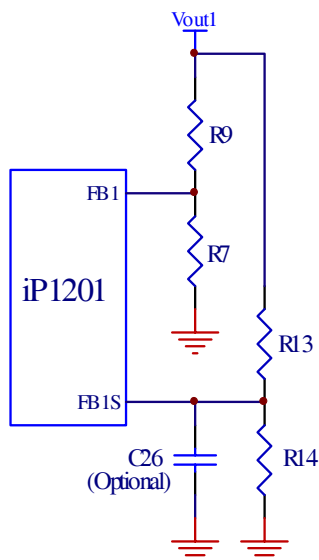

Fig. 19: Typical scheme for output voltage setting
Both outputs of the iP1201 will shut down if either one of the outputs experiences a voltage in the range of 115% of V_{OUT} . The overvoltage sense pins FB1s and FB2s are connected to the output through voltage dividers, R_{13} and R_{14} (Fig. 19), and the trip setpoints are programmed according to equation (1). Separate overvoltage sense pins $FB1_s$ and $FB2_s$ are provided to protect the power supply output if for some reason the main feedback loop is lost (for instance, loss of feedback resistors). If this redundancy is not required and if Type II control loop compensation scheme is utilized, FB1s and FB2s pins can be connected to FB1 and FB2 pins respectively. An optional 100pF capacitor (C26) is used for delay and filtering purposes.
When selecting output capacitors, it is important to consider the overshoot performance of the power supply. If the amount of capacitance is not adequate, then, when unloading the output, the magnitude of the overshoot due to stored inductor energy, and depending on the speed of the response of the control loop, can exceed the overvoltage trip threshold of the iP1201 and can cause undesirable shutdown of the output. The magnitude of the overshoot should be kept below $1.125V_{OUT}$. To prevent the overshoot from tripping the output a delay can be added by installing capacitor C26 as shown in Fig.19.
From Fig.19 the transfer function $H(s)$ of the error amplifier is given by (9):